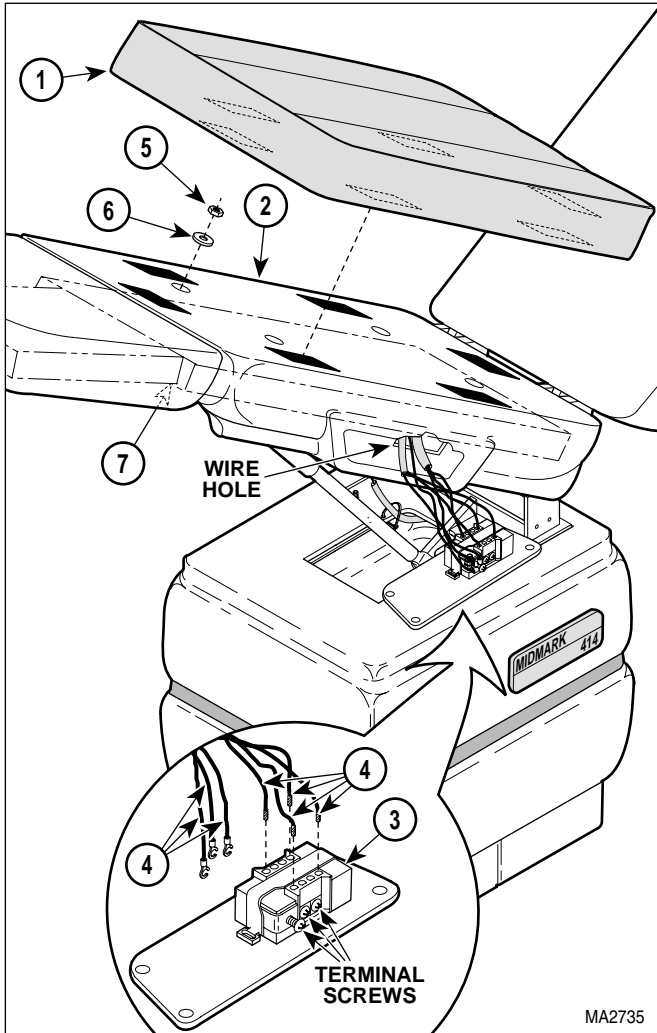

Figure 4-33. Plastic Seat Section Removal / Installation
- (1) Unplug power cord from wall receptacle.
- (2) Remove a hand control plug-in port from each side of table (Refer to para 4.7).
- (3) Remove control disable switch (Refer to para 4.6).
- (4) Remove upholstered seat section (1, Figure 4-33) from plastic seat section (2).
- (1) Unlock locking handle (See Figure 4-33).